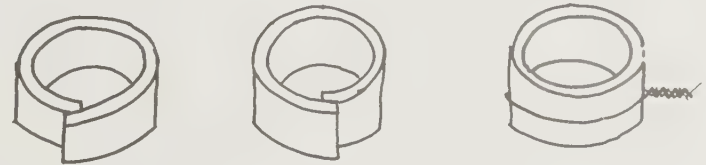

Fig. 31
7. To build up tension in the metal, overlap the ends back and forth and over and under each other then snap together to a smooth joint. If it is tight, binding wire is not needed, but it can be bound as shown in Fig. 31. Remove binding wire after soldering and before pickling.